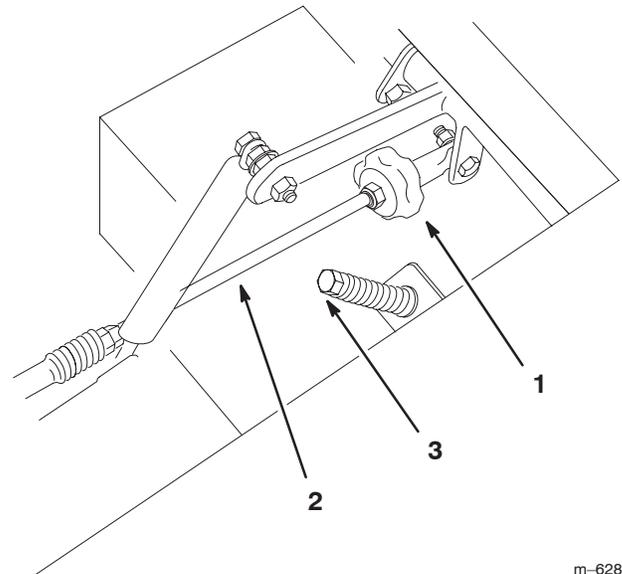

Figure 46
2. Adjust the pump rod length by rotating the knob in the appropriate direction until the wheel is still or slightly creeping in reverse (Fig. 46).